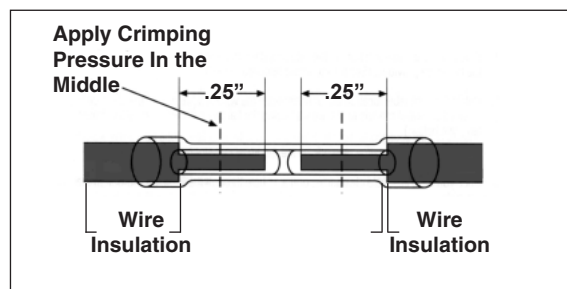

Figure 5
**NOTE:** It is important to remember that a solid electrical connection is essential when installing any electrical device or option. A proper crimp is shown in **Fig. 5**.